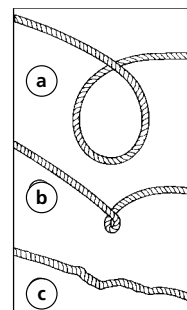

Figure 11
5. **PREVENT KINKS BEFORE THEY OCCUR** (FIGURE 11).